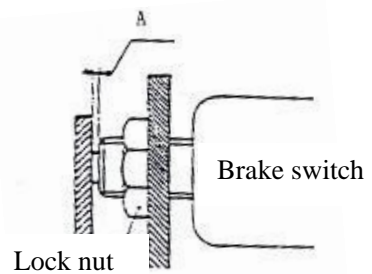

Figure 2-9 Brake light switch
- (5) Adjust the brake switch as shown in Figure 2-9